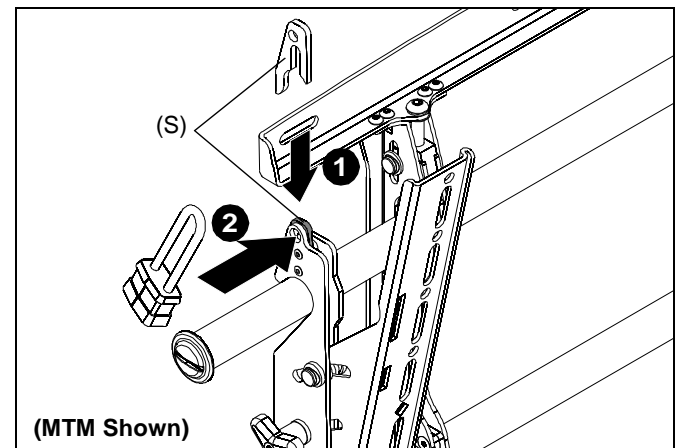

Figure 11
1. Add optional security bracket (S or T) to the mount. (See Figure 11)